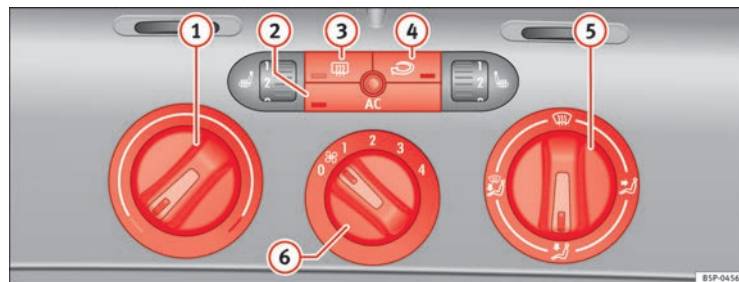

Fig. 107 On the dash panel: Climatic controls
- Use the knobs ⇒ fig. 107 ① and ⑤ and control ⑥ to set the temperature, air distribution and blower speed.
- To switch a function on or off, press the appropriate button ②, ③ or ④. When the function is activated, the display window in the lower corner of the button is lit.
- ① Temperature selector ⇒ page 148
- ② AC button – Heating, ventilation and air-conditioning system on/off ⇒ page 148
- ③ button – Heated rear window The heating will be switched off automatically approximately 20 minutes after switching on. It can also be switched off beforehand by pushing the button.
- ④ Button – Air recirculation mode ⇒ page 149
- ⑤ Air distribution control ⇒ page 148
- ⑥ Blower switch. There are four speed settings for the air flow. The air flow should always be set at the lowest speed when driving slowly.
- Switch on the air conditioner using the button ⇒ fig. 107 .